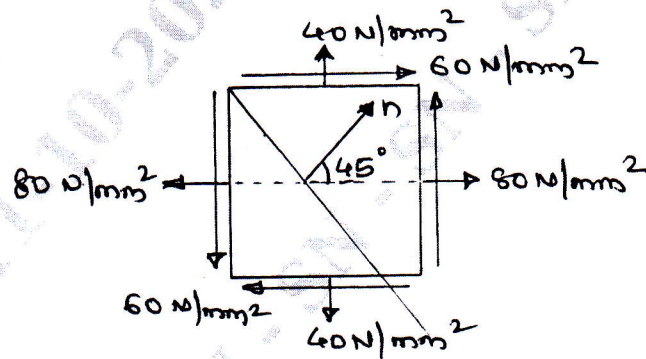

Fig.Q4
- 4 The state of stress at a point in a strained material is shown in Fig.Q4. Determine :